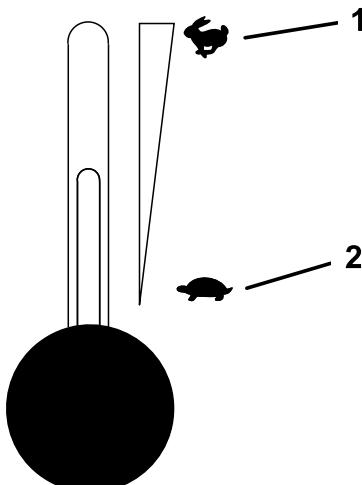

Figure 15
5. Move the throttle lever to the middle position (Figure 15).
2. Move the throttle lever midway between the slow and fast positions (Figure 15).